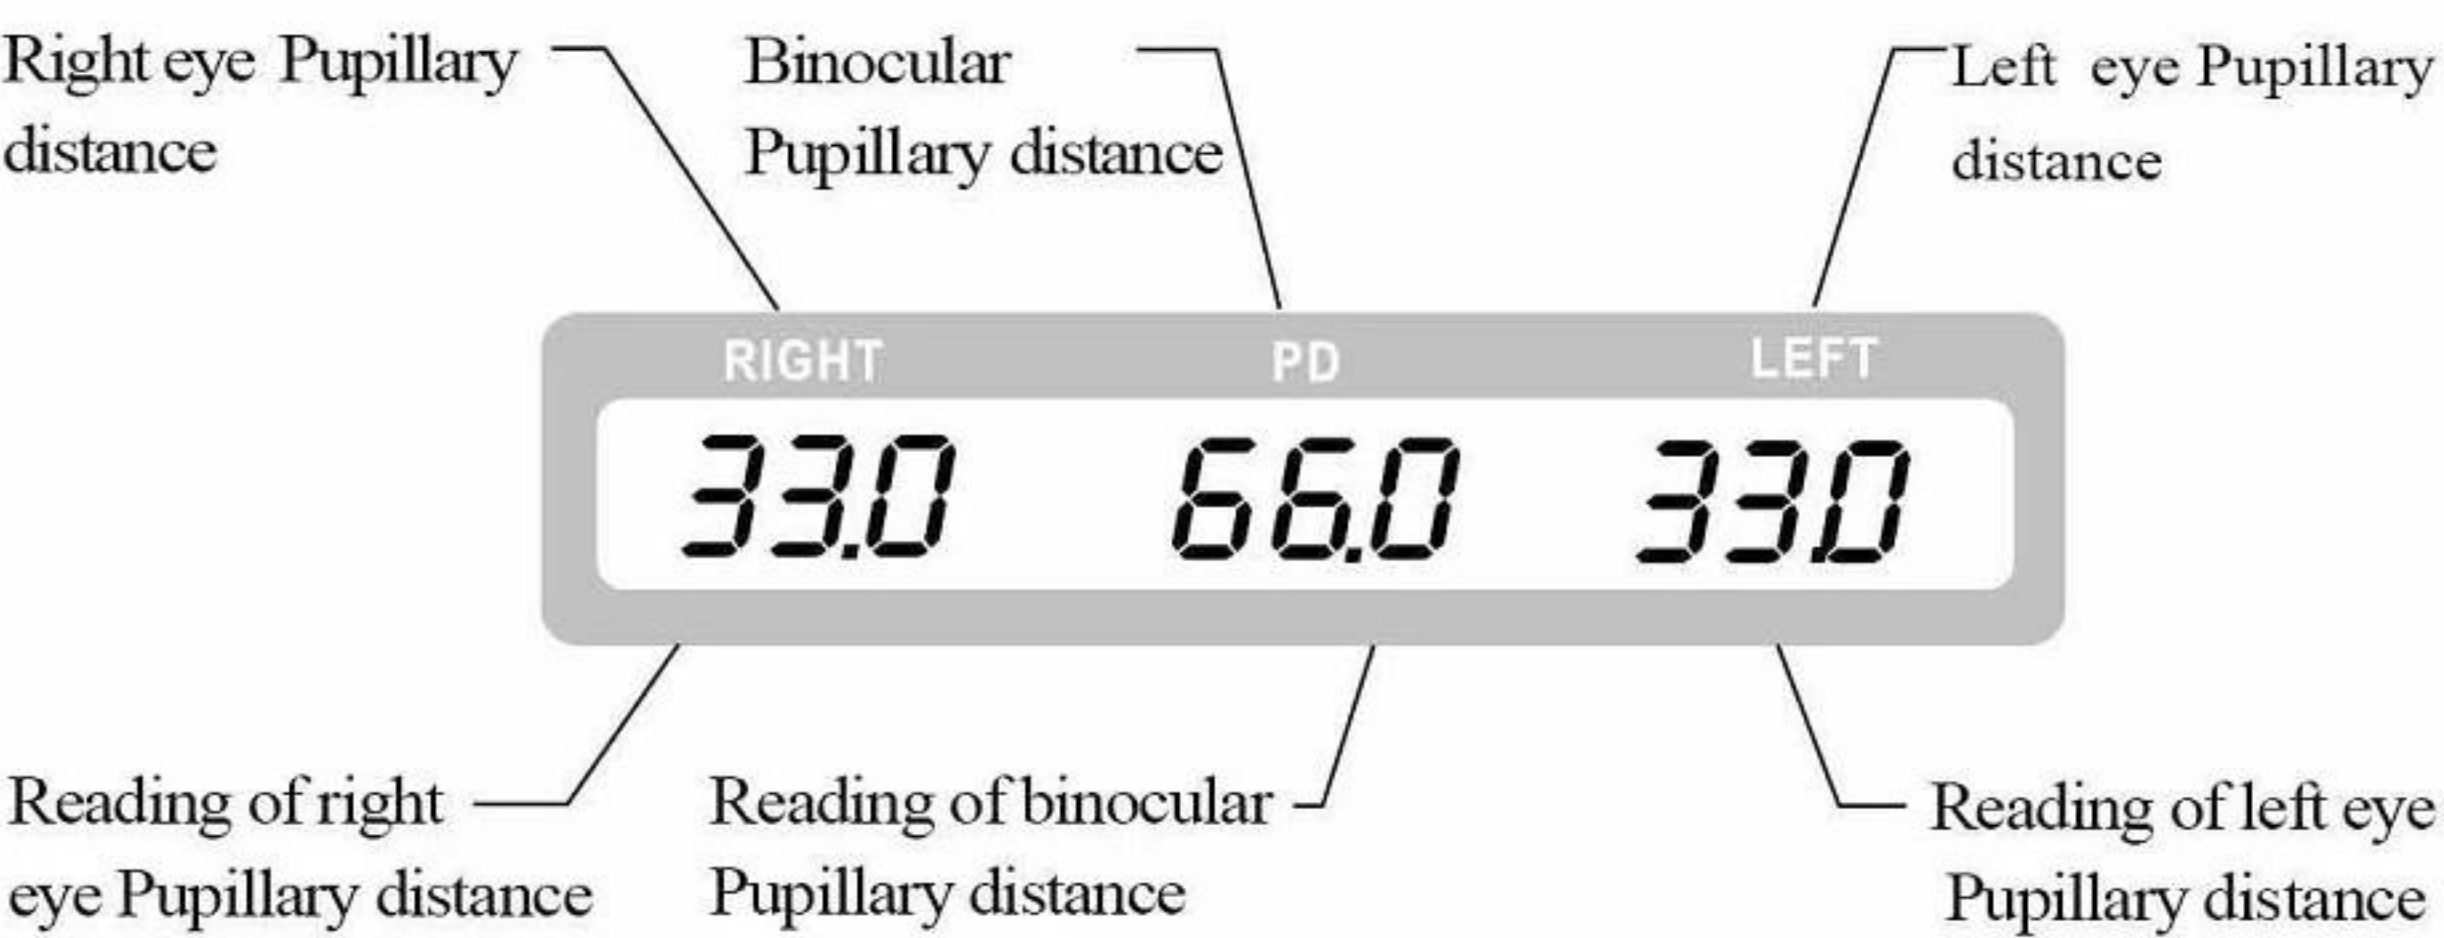

Fig.2
**F5 Display Window (as shown in Fig.2)**